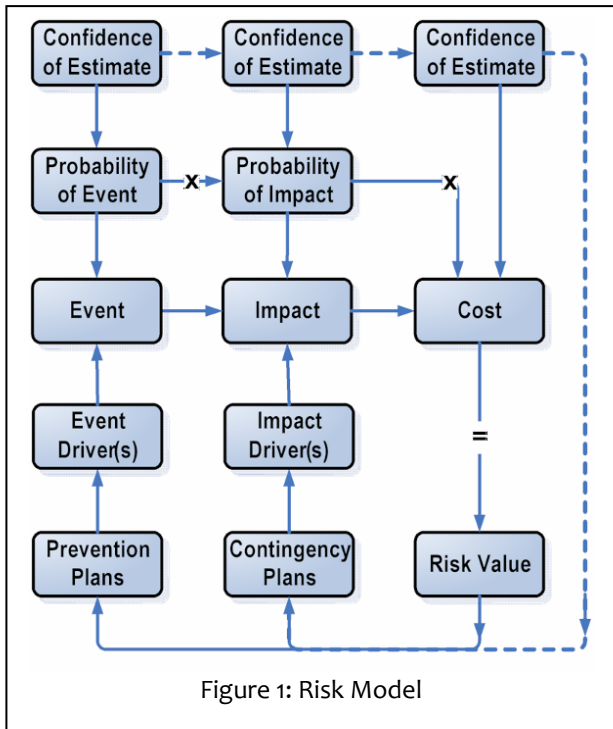

Figure 1: Risk Model
If a risk event occurs, there is a probability that it impacts our success: if there is an earthquake in Japan, will it impact our project in Paris? If it does impact our success, there is Cost involved. The product of the Probability that the risk event occurs (P_e), the Probability of the Impact hitting us (P_i) and the Cost if we are impacted by the event (C), is called the Risk Value (V_R) (Figure 1):